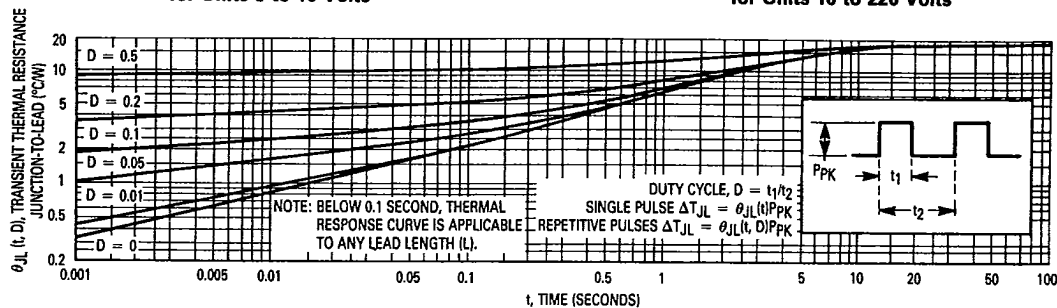
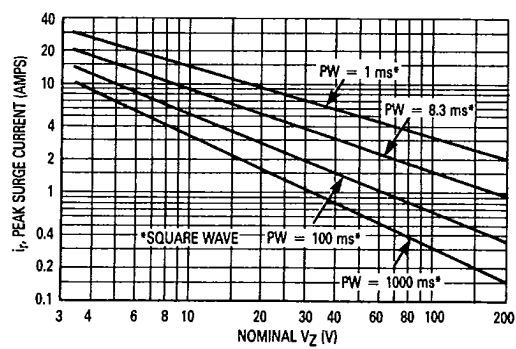
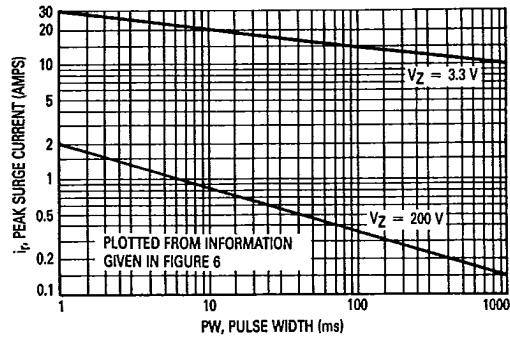

Figure 4. Typical Thermal Response L, Lead Length = 3.8 Inch
Figure 6. Maximum Non-Repetitive Surge Current versus Nominal Zener Voltage (See Note 3)
Figure 7. Peak Surge Current versus Pulse Width (See Note 3)
- (1) TOLERANCE AND VOLTAGE DESIGNATION — The JEDEC type numbers shown indicate a tolerance of ±10% with guaranteed limits on only V_Z, I_R, I_F, and V_F as shown in the electrical characteristics table. Units with guaranteed limits on all seven parameters are indicated by suffix "A" for ±10% tolerance and suffix "B" for ±5%, C for ±2% and D for ±1%.
- (2) ZENER VOLTAGE (V_Z) AND IMPEDANCE (Z_{ZT} & Z_{ZK}) — Test conditions for Zener voltage and impedance are as follows: I_Z is applied 40 ± 10 ms prior to reading. Mounting contacts are located 3/8" to 1/2" from the inside edge of mounting clips to the body of the diode. (T_A = 25°C ± 2°C).
- (3) SURGE CURRENT (I_S) — Surge current is specified as the maximum allowable peak, non-recurrent square-wave current with a pulse width, PW, of 8.3 ms. The data given in Figure 6 may be used to find the maximum surge current for a square wave of any pulse width between 1 ms and 1000 ms by plotting the applicable points on logarithmic paper. Examples of this, using the 3.3 V and 200 V zeners, are shown in Figure 7. Mounting contact located as specified in Note 3. (T_A = 25°C ± 2°C).
- (4) VOLTAGE REGULATION (ΔV_Z) — Test conditions for voltage regulation are as follows: V_Z measurements are made at 10% and then at 50% of the I_Z max value listed in the electrical characteristics table. The test currents are the same for the 5% and 10% tolerance devices. The test current time duration for each V_Z measurement is 40 ± 10 ms. (T_A = 25°C ± 2°C). Mounting contact located as specified in Note 2.
- (5) MAXIMUM REGULATOR CURRENT (I_{ZM}) — The maximum current shown is based on the maximum voltage of a 5% type unit, therefore, it applies only to the B-suffix device. The actual I_{ZM} for any device may not exceed the value of 5 watts divided by the actual V_Z of the device. T_L = 75°C at 38° maximum from the device body.
Data of Figure 4 should not be used to compute surge capability. Surge limitations are given in Figure 6. They are lower than would be expected by considering only junction temperature, as current crowding effects cause
temperatures to be extremely high in small spots resulting in device degradation should the limits of Figure 6 be exceeded.